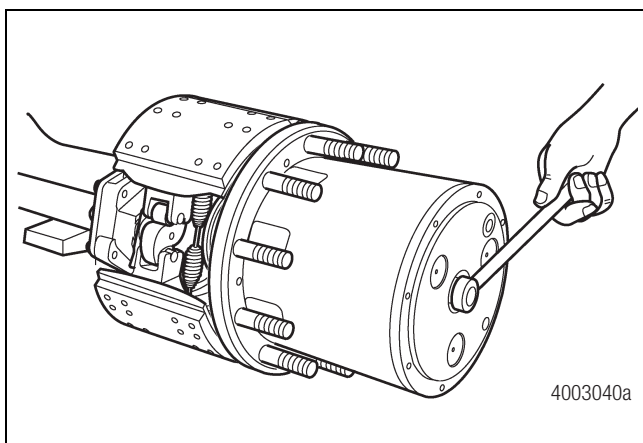

Figure 3.4
2. Use a 30 mm wrench to remove the thrust screw nut. Figure 3.4.